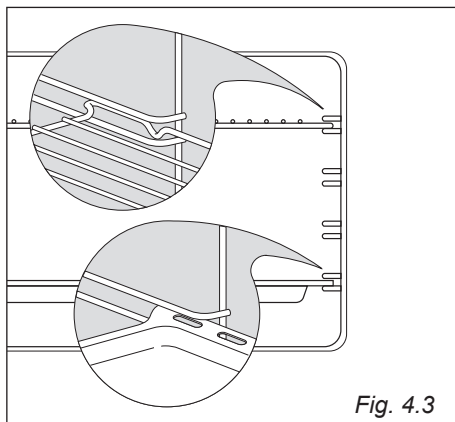

Fig. 4.3
- Slide in, on the guides, the shelf and the tray (fig. 4.3).